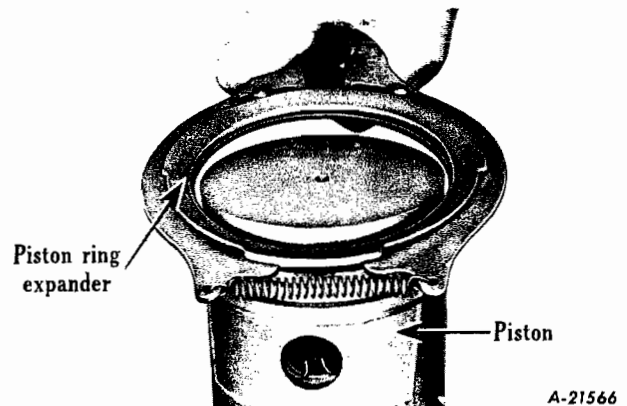

Fig. 41 - Installing piston ring using SE-1149-6 Ring Installing Tool.
- When installing piston rings in piston grooves, be careful not to distort rings. If possible, use a suitable piston ring expander tool (Fig. 41). Also check new piston rings in piston ring grooves for clearance between ring and ring lands. The correct ring clearance is shown in specifications.